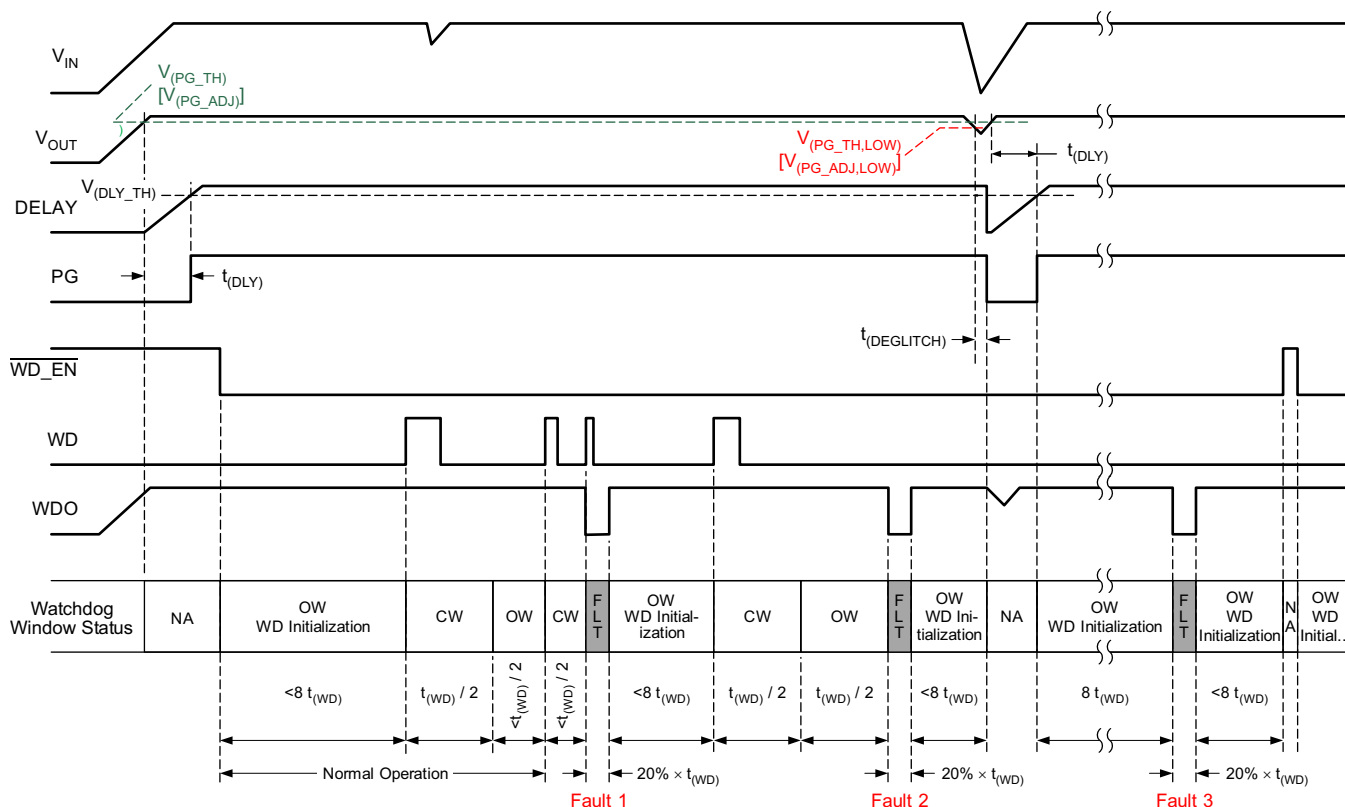

Figure 24. Window Watchdog Operation
The window watchdog is able to monitor whether the frequency of the watchdog service signal (WD) is within certain ranges. A watchdog low-voltage fault is reported when the frequency of the watchdog service signal is out of the setting range. Figure 24 shows the window watchdog initialization and operation for the TPS7B68xx-Q1 (WRS is low). After the output voltage is in regulation and PG is high, the window watchdog becomes enabled when an external signal pulls $\overline{\text{WD_EN}}$ (the watchdog enable pin) low. This causes the watchdog to initialize and wait for a service signal during the first initialization window for 8 times the duration of t_{WD} . A service signal applied to the WD pin during the initialization open window resets the watchdog counter and a closed window starts. To prevent a fault condition from occurring, watchdog service must not occur during the closed window. Watchdog service must occur during the following open window to prevent a fault condition from occurring. The fault output (WDO), externally pulled up to V_{OUT} (typical), stays high as long as the watchdog receives a proper service signal and there is no other fault condition.
Three different fault conditions occur in Figure 24: